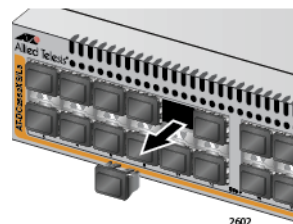

Figure 35. Removing the Dust Plug from an SFP+ Slot
1. Remove the dust plug from an SFP+ slot on the switch. See Figure 35.